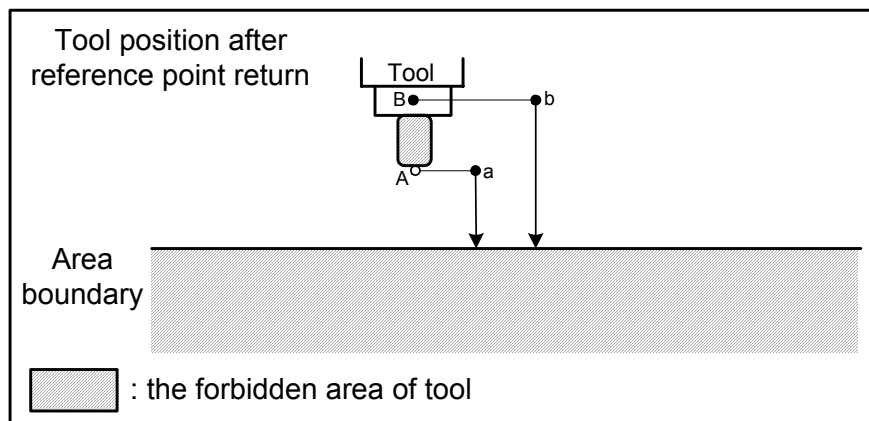

Fig. 2-6-4 Set the forbidden area
3) The inspection point of forbidden area: It is important to confirm the inspection point position (the top of the tool-nose or tool-setting) before programming the forbidden area. Refer to the **Fig. 2-6-4**, for example, the inspection point A (tool-nose), the distance “a” should be set as the data of the stored function inspection; the point B (tool-setting), the distance “b” should be set as the data of the stored function inspection. When the inspection point is A (tool-nose), and the tool length varies from different tools, the forbidden area should be set based upon the longest tool to guarantee the safety operation.